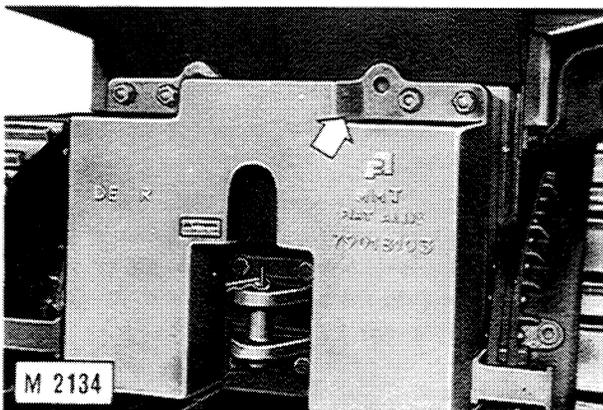

Fig. 1-3 - Type and serial number of frame (stamped on transmission housing).
- the type and number of frame (Figs. 1-3)